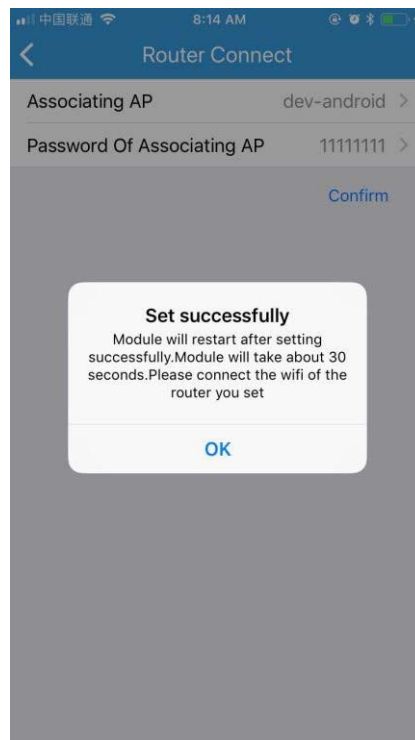

Figure 19
5. Confirm the modifications. After the SSID and password settings are completed, click OK to confirm the parameter modification settings, as shown in Figure 19.